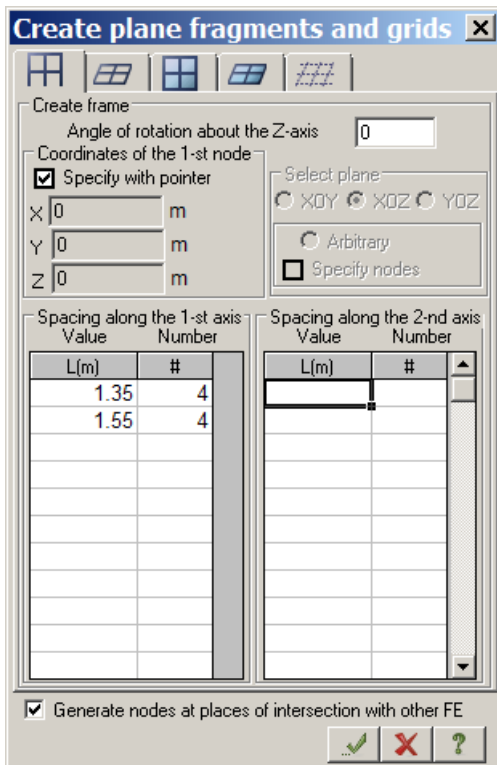

Figure 19.8 **Create plane fragments and grids** dialog box
- other parameters remain by default (see Figure 19.8).